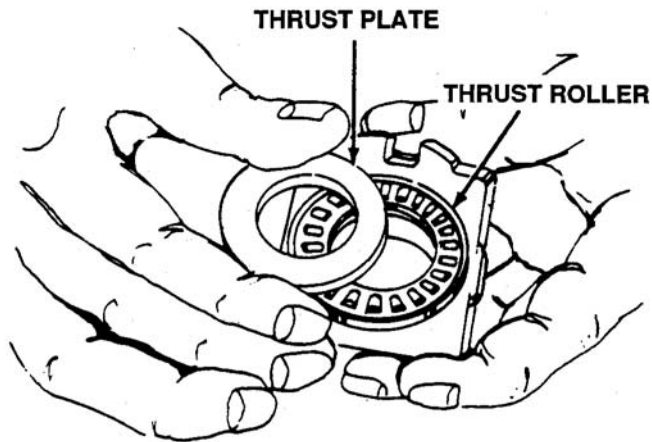

Figure 6-21. Thrust Plate and Thrust Roller
- c. Remove the thrust plate and thrust roller from the swashplate. See Figure 6-21.